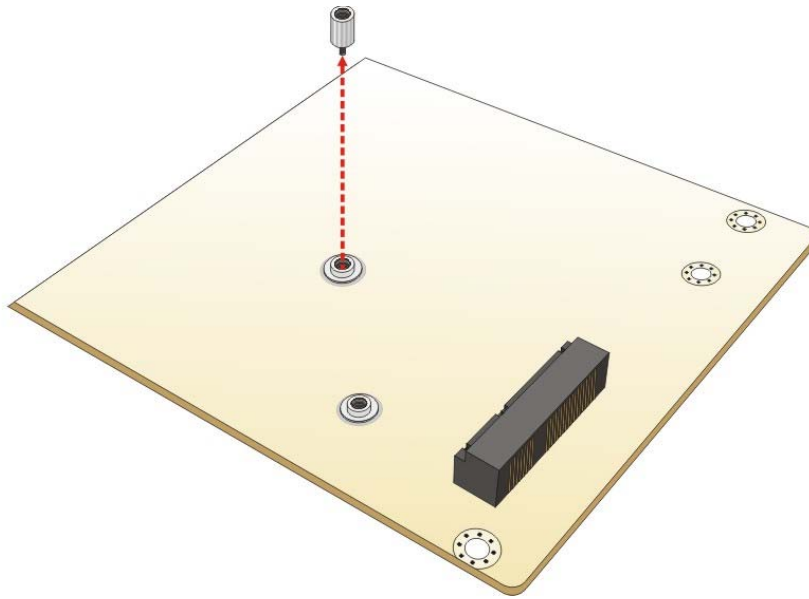

Figure 4-5: Removing Retention Screw and Standoff
Step 2: Remove the retention screw first, then unscrew and remove the standoff secured on the motherboard. See **Figure 4-5**.